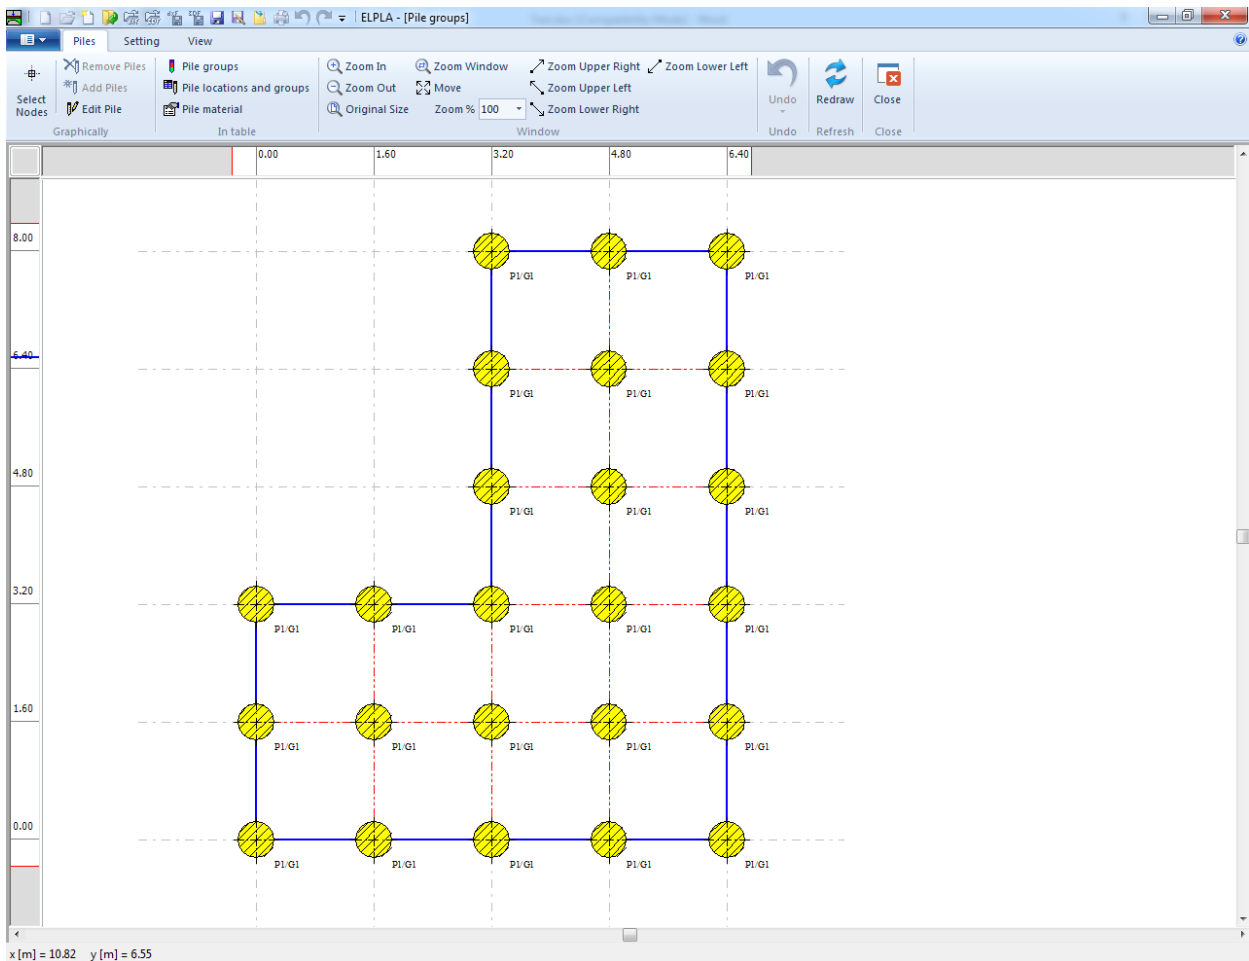

Figure 11.20 Piles
After you have completed the definition of the piles, the screen should look like the following (Figure 11.20).
- Choose "Save" command from "File" menu in Figure 11.20 to save the data of piles
- Choose "Close" command from "File" menu in Figure 11.20 to close the "Piles" Window and to return to *ELPLA* main window.